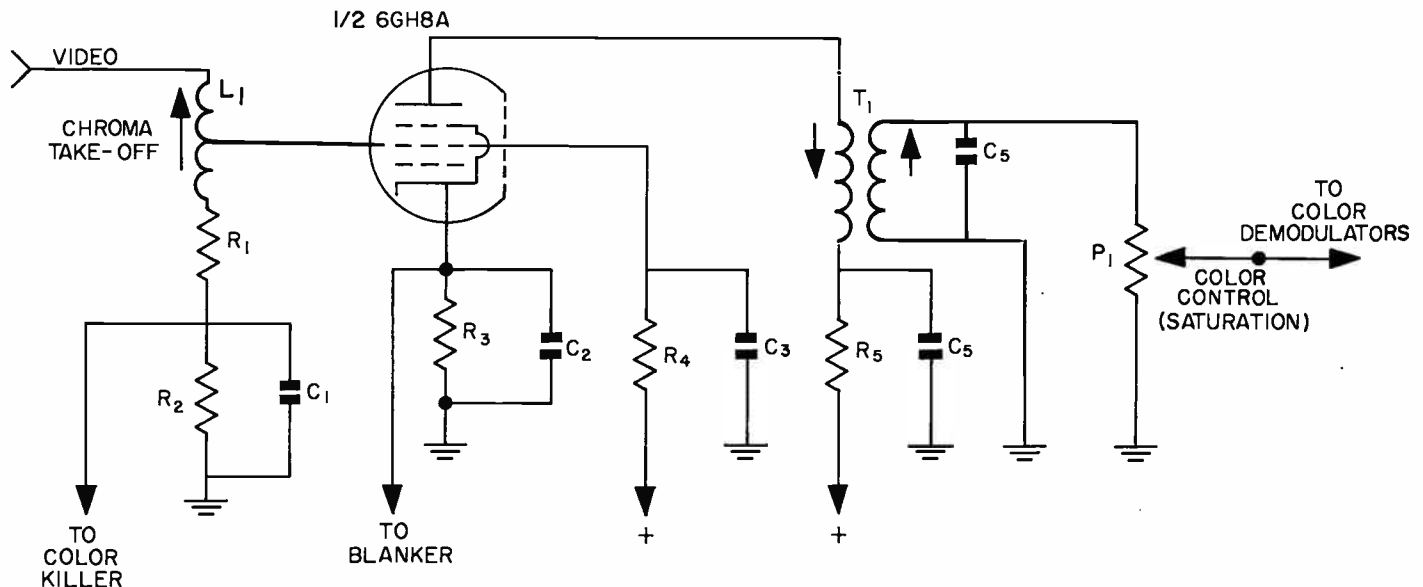
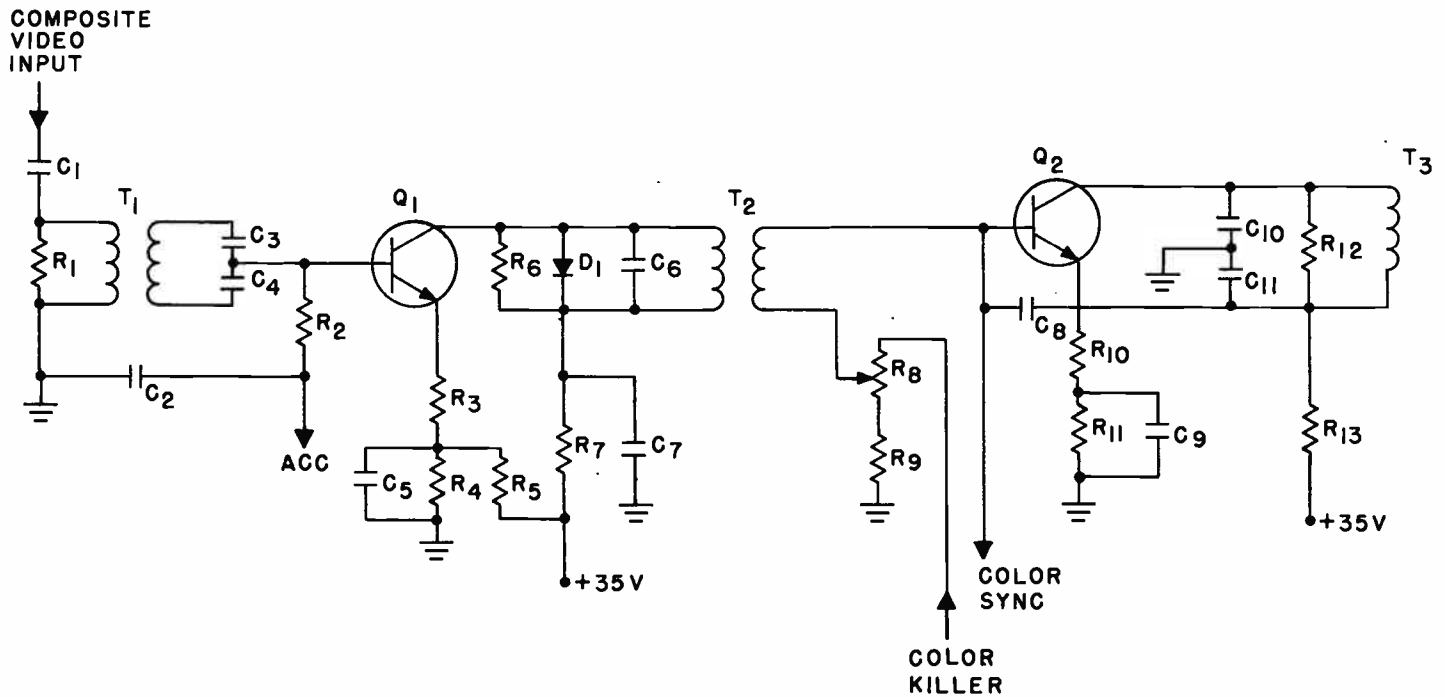
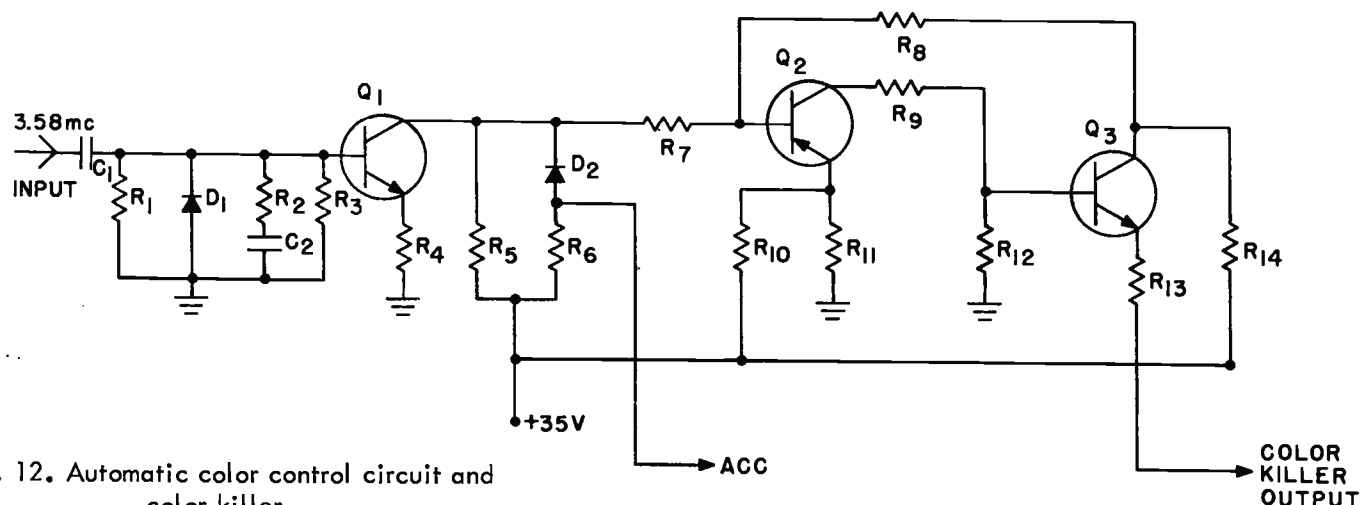

Fig. 2. Single stage bandpass amplifier.
Fig. 3. A two-stage transistor color i-f amplifier.
Fig. 12. Automatic color control circuit and color killer.
Fig. 2 shows a simplified diagram of a single stage bandpass amplifier. The composite video signal from the video amplifier is applied to the chroma takeoff coil, L_1 . The combination of L_1 and C_1 forms a series-resonant circuit. A tap on the coil feeds the signal to the control grid of the amplifier tube. R_1 is a small value resistor which is in series with L_1 and C_1 to broaden the response of the resonant circuit. When no color signal is being received, a negative voltage from the color killer is applied to the junction of R_1 and R_2 . This negative voltage is applied to the grid of the tube through R_1 and L_1 and cuts the tube off. This prevents any extraneous signal from passing through the amplifier during black-and-white reception. A positive horizontal pulse from the blanker stage is applied to the cathode of the bandpass amplifier to blank the stage during the horizontal retrace period.
The amplified chroma signal current from the plate of the tube (Fig. 2) flows through the primary winding of the tuned bandpass transformer, T_1 . The primary winding along with the plate-to-cathode capacity of the tube and stray wiring capacity form a parallel-resonant circuit. The signal from the primary of T_1 is coupled to the secondary winding and applied to potentiometer, P_1 . The setting of the color control, P_1 , selects the amplitude of the color signal applied to the demodulators, and thereby controls the saturation of the colors displayed on the picture tube.
A two-stage transistor color bandpass amplifier is shown in Fig. 3. The circuit is essentially the same as any transistor i-f amplifier, but there are a few unusual features.
The desired bandpass amplifier response is attained by adjusting the circuits associated with the bandpass amplifier. In Fig. 2 this includes L_1 and the primary and secondary windings of T_1 . Color control P_1 in this circuit is a low resistance potentiometer that loads the transformer secondary to lower the Q of the tuned circuit and broaden its response.
Where the set uses two bandpass amplifier stages, the potentiometer may be located between the stages or at the output of the second stage. Fig. 2 is an example of a color control located at the output of the bandpass amplifier. It selects a portion of the signal from the output of the amplifier. Fig. 3 is an example of a two-stage amplifier where the control is in the second stage and varies the bias on the stage.
An interesting circuit that functions as an automatic color control and as a color killer is shown in Fig. 12. This transistorized circuit is used in conjunction with the two-stage bandpass amplifier shown in Fig. 3.
The automatic color control voltage which is taken off at the junction of D_2 and R_6 is fed to the base of the first color i-f amplifier in the circuit shown in Fig. 3. The higher the amplitude of the color burst signal, the more the voltage drops at the junction of D_2 and R_6 . This drops the forward bias applied to the base of Q_1 and hence reduces the gain of this stage. Therefore, the transistor, Q_1 , in the circuit shown in Fig. 12 acts as an automatic gain control and controls the gain of the first color i-f stage depending upon the strength of the signal received.
3, you'll notice that the potentiometer, R_8 , feeds back to the color killer output. During monochrome reception, when no color burst is transmitted, the transistor, Q_3 , in the circuit shown in Fig. 12 will not be conducting. When this happens there will be no forward bias across the emitter-base junction of the second color i-f amplifier in Fig. 3. As a result the transistor will be cut off. When a 3.58-mc signal is fed to Q_1 and causes the collector voltage on this transistor to drop, this will place a forward bias across the PNP transistor, Q_2 . The forward bias that is across the emitter-base junction of this transistor will cause the transistor to conduct and develop a positive voltage on the base of Q_3 . This will cause Q_3 to conduct and the current will flow through the resistor, R_9 , and the color potentiometer, R_8 , in Fig. 3, and then through R_{13} in Fig. 12 to the emitter of Q_3 . This current will place a positive voltage on the base of Q_2 , the second color i-f amplifier in Fig. 3, and hence turn this stage on.
The feedback resistor, R_8 , connected between the collector of Q_3 and the base of Q_2 in Fig. 12 is used to make the action of the color killer positive. Once Q_2 begins to conduct and causes Q_3 to conduct the drop in collector voltage on Q_3 is fed back to the base of Q_2 through R_8 . This feedback causes the base voltage of Q_2 to swing highly negative, which is the condition we want for the switch to close fully when the color signal is received. When Q_2 is turned all the way on, it will develop maximum forward bias at the base of Q_3 and turn this part of the switch on fully and hence develop maximum forward bias for the second color i-f amplifier in the two-stage amplifier shown in Fig. 3. The potentiometer, R_8 , in Fig. 3 is adjusted to give you the required gain in this stage which will give you the degree of color saturation desired.
- What purpose does D_2 in Fig. 12 serve?